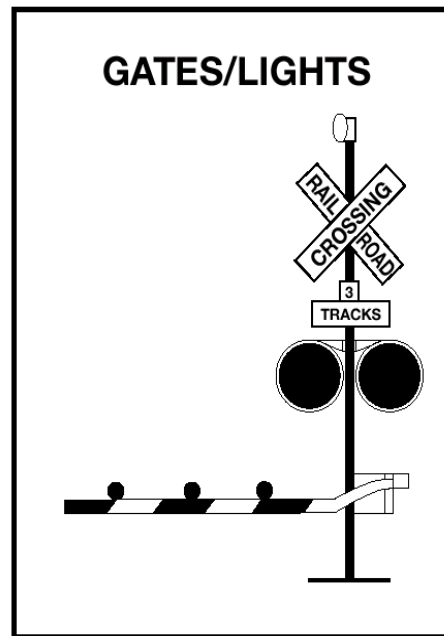

Figure 10.8
**Flashing Red Light Signals.** At many highway-rail grade crossings, the cross-buck sign has flashing red lights and bells. When the lights begin to flash, stop! A train is approaching. You are required to yield the right-of-way to the train. If there is more than one track, make sure all tracks are clear before crossing. See Figure 10.8.
Gates. Many railroad-highway crossings have gates with flashing red lights and bells. Stop when the lights begin to flash and before the gate lowers across the road lane. Remain stopped until the gates go up and the lights have stopped flashing. Proceed when it is safe. If the gate stays down after the train passes, do not drive around the gate. Instead, call your dispatcher. See Figure 10.8.